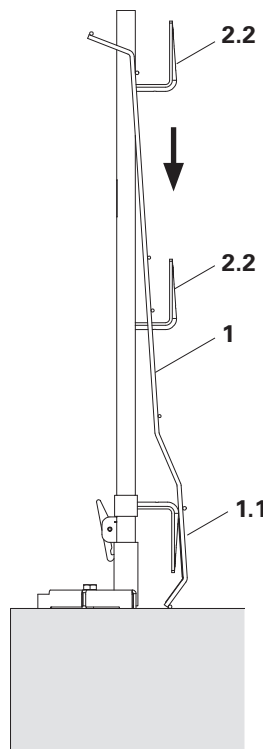

Fig. A2.03a
1. Attach the Side Mesh Barrier PMB (1) to the top retainer (2.2). The toe board (1.1) leans against it. (Fig. A2.03a)